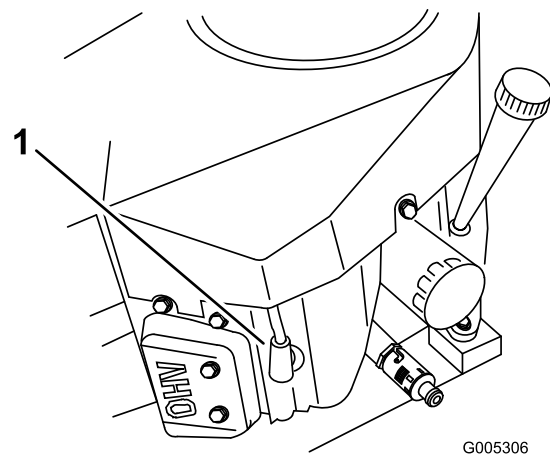

Figure 35
3. Disconnect the wires from the spark plugs (Figure 35).
3. Connect the wires to the spark plugs (Figure 35).